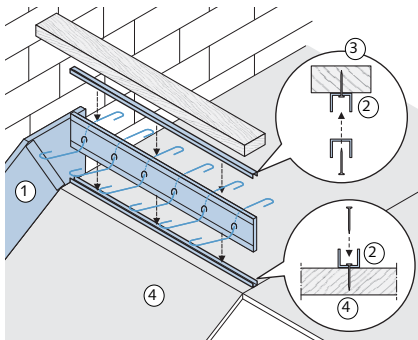
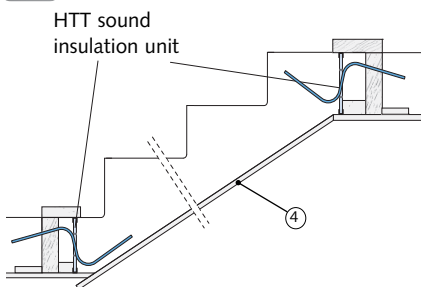

Figure 1: Assembly scheme for in-situ cast elements
Figure 2: Formwork in the precast plant
- ▶ formwork according to figure 2
- ▶ fix the **HTT Impact sound insulation unit** with the nailing bars (included) as shown in figure 1
Support design (figures 1–4)
► Landing supports can be designed as shown in figure 1 or figure 2
► Landing support design as shown in figure 2 also requires the installation of HTPL Impact sound insulation plates towards the staircase walls (page 9).